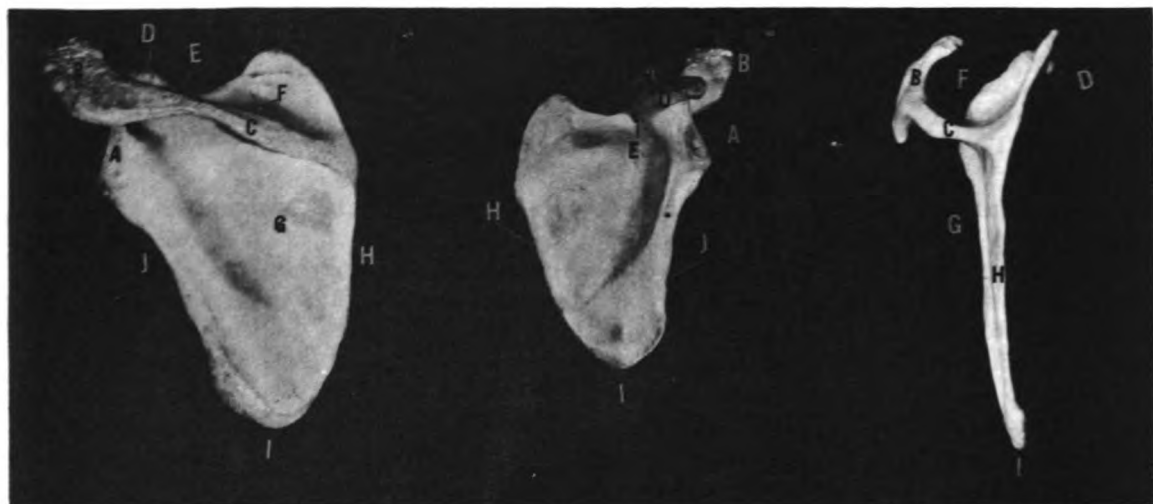

Figure 4-9 The Scapula - PA, AP and Lateral Views
The Scapula. On the scapula (shoulder blade) you will find a number of structures. They are the **GLENOID FOSSA (A)**, **ACROMION PROCESS (B)**, **SCAPULAR SPINE (C)**, **CORACOID PROCESS (D)**, **SCAPULAR NOTCH (E)**, **SUPRASPINATOUS FOSSA (F)**, **INFRASPINATOUS FOSSA (G)**, **VERTEBRAL BORDER (H)**, **INFERIOR ANGLE (I)**, AND **THE AXILLARY BORDER (J)**. The scapula is flat, triangular bone on the back of the shoulder (Figure 4-9).